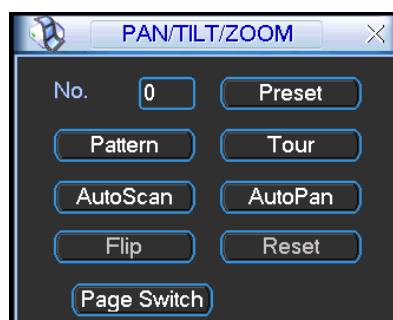

Figure 4-47
In Figure 4-43, click page switch button, the interface is shown as in Figure 4-47.
- The following setups are usually operated in the Figure 4-43, Figure 4-46 and Figure 4-47.
In Figure 4-47, please input preset number in the No. blank, and click preset button.
In Figure 4-47, click “Auto Scan” button, the system begins auto scan. Correspondingly, the auto scan button becomes Stop button. Click stop button to terminate scan operation.
In Figure 4-47, click page switch button, you can see an interface is shown as below. See Figure 4-52. Here you can set auxiliary function. The aux value has relation ship with the Aux button of the decoder.